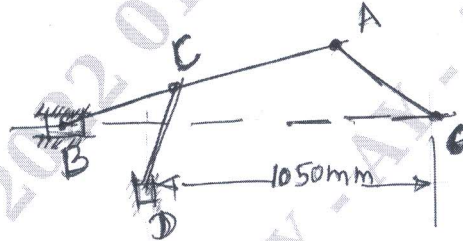

Fig.Q4(a)
- 4 a. For the mechanism shown in Fig.Q4(a) the crank OA rotates at 20 rpm anticlockwise and gives motion to the sliding blocks B and D. The dimensions of various links are OA = 300 mm, AB = 1200 mm, BC = 450 mm and CD = 450 mm for the given configuration, determine: